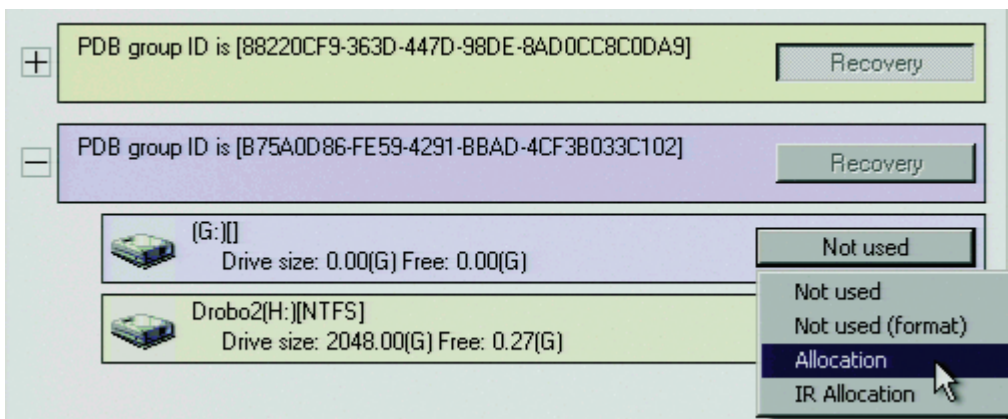

Figure 84. Selecting Drives for Allocation
- b. Click the PDB button for each JBOD drive, and then select Allocation (refer to Figure 84).